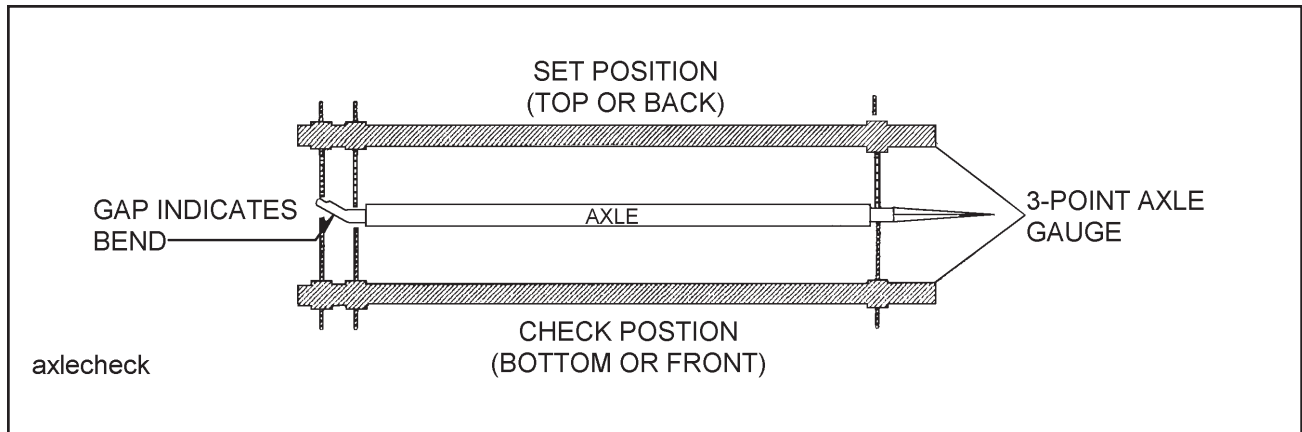

Figure 4-12 Checking Axle for Bend
- b. Place a 3-point axle gauge against the front side of the axle, and adjust each axle gauge point to the axle. (Double point end against the inner and outer wheel bearing surfaces of the spindle being checked and the other point on the inner bearing surface on the other spindle) (See Figure 4-12).
- c. Move the axle gauge and place against the back side of the axle. If either of the points of double point end fails to touch the axle surface, a bent spindle is evident. A point gap of .015" or more is considered excessive tire “toe” and the axle must be replaced (See Figure 4-12).